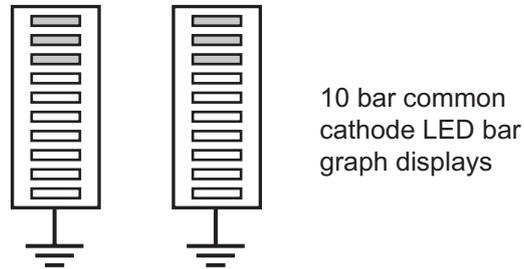

Fig. 2(d)
- Design a circuit based on bar graph display drivers that will operate the bar graph displays shown in **Fig. 2(d)** for both the left and right forks using the output from the respective differential amplifiers. [4]
- Design a circuit that will switch on a buzzer if either of the bar graph displays shown in **Fig. 2(d)** in the forklift cab unit indicate maximum overloading on the respective fork (i.e. when the 10th segment of either display is illuminated). The buzzer should turn on and off at 0.25 second intervals until the load on the appropriate fork is reduced or rebalanced. (The loading on each fork must be checked at least 2 times per second.) [6]